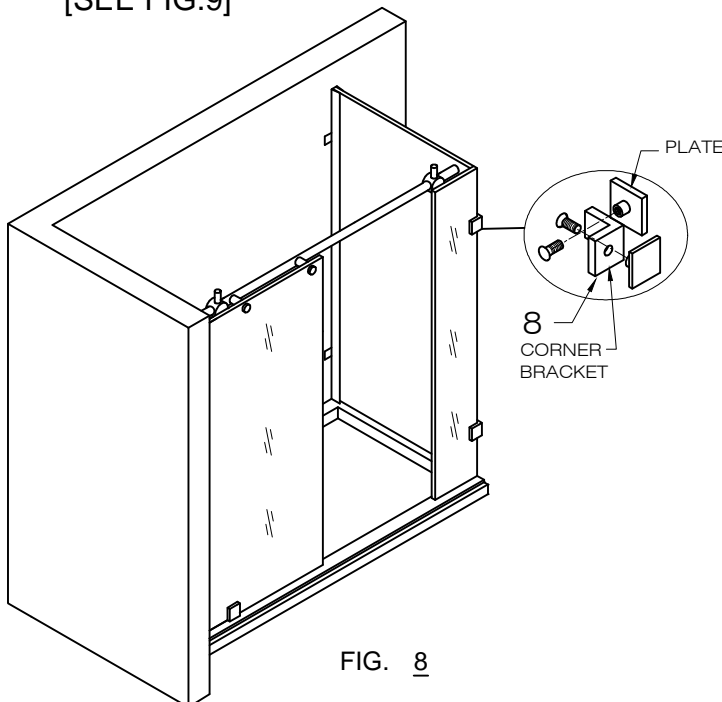

FIG. 8
2. Unscrew the corner brackets (#8) [SEE FIG.8]